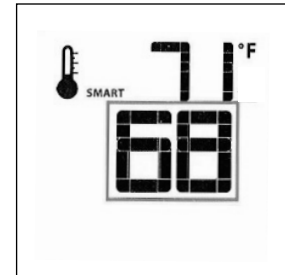

Figure 87. Smart Set Temp.
- To adjust the temperature, press the Up or Down Arrow Keys until the desired Set Temperature is displayed. Fig. 87.